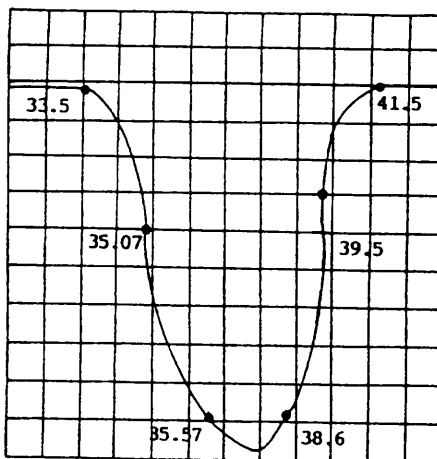

Fig 3.
- 6: Adjust tuner converter coil to obtain the waveform as fig 3.